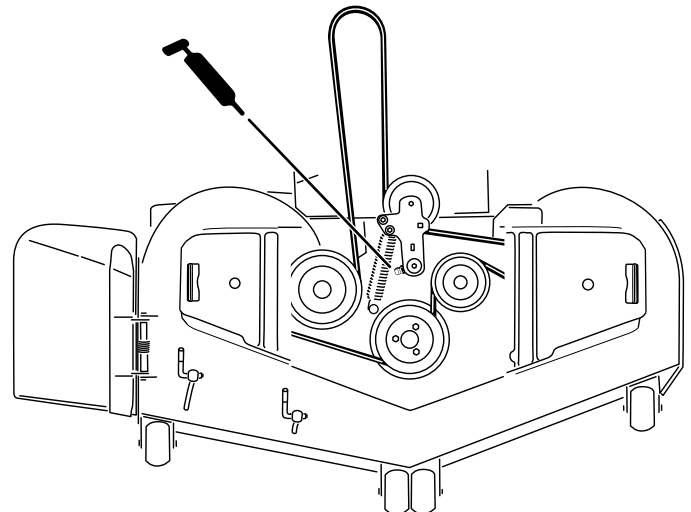

Figure 42
3. Grease the mower deck idler pulley pivot until grease comes out the bottom (Figure 42).